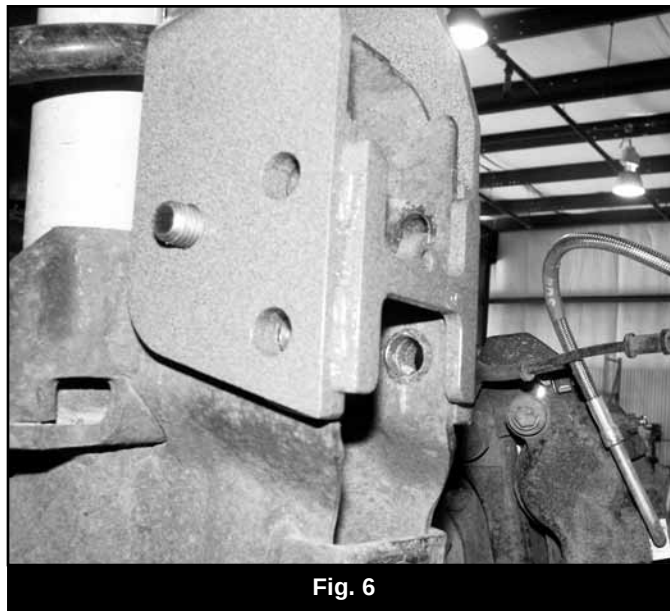

Fig. 6
28. Adjust the control arm relocation bracket so the backing plate is parallel to the back edge of the original axle mount and mark the four holes to be drilled (two inner and two outer). Remove the bracket and drill 9/16" holes at the marks. (Fig. 6)